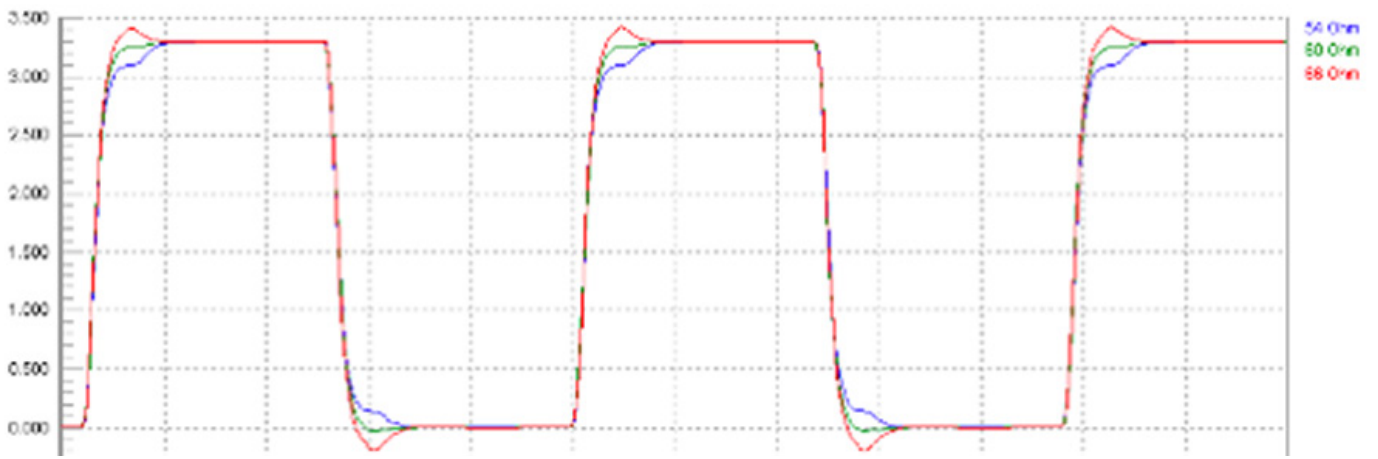

Figure 5. A schematic description of SPI bus termination resistors (top) and the impact of source termination resistors on a high-speed signal waveform (bottom)
- For applications in the 50-100MHz domain that may experience some transmission line reflections, it's common to slow down the driving signal and dampen the ringing with the placement of a series resistor (Figure 5). This can be done for longer SPI bus layouts where you place a resistor (typically 22-33Ω, which typically helps achieve a 50Ω target line impedance) in line with each source. Place these resistors near the MOSI, SCLK and CS pins at the master end and the MISO pin at each slave's end.